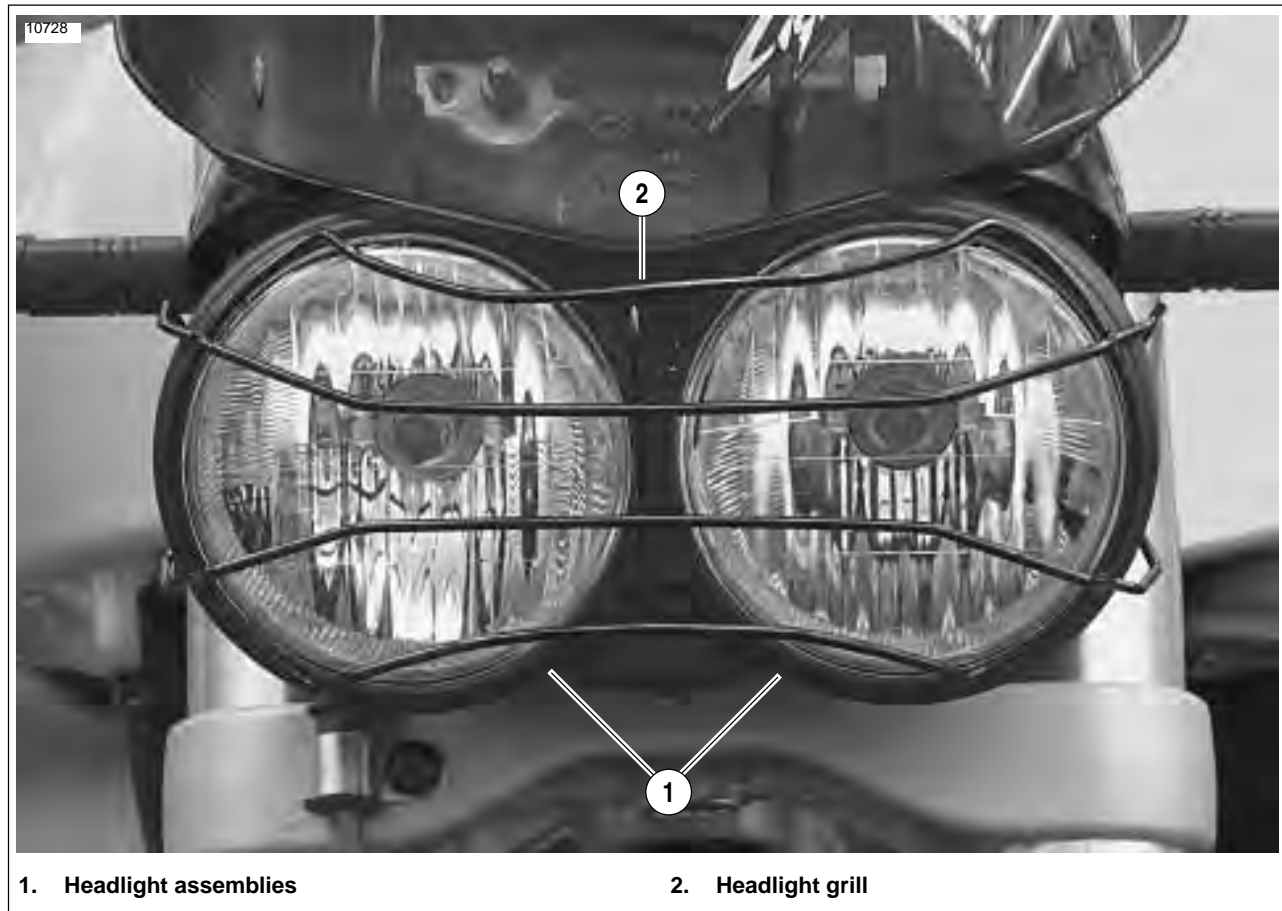

Figure 2-102. XB9SX Headlight Grill
See Figure 2-102. The headlight grill is offered as a standard feature on the XB9SX to provide additional protection for the headlight assemblies.
1. See Figure 2-102. Grab headlight grill on either side and spread to remove from headlight assemblies.